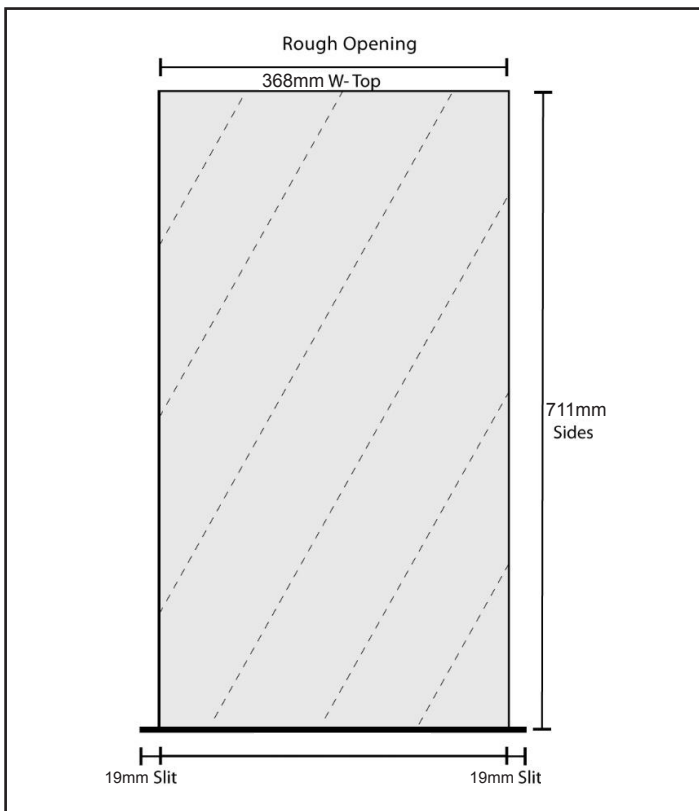

Figure 1
2. Once step 8 is complete, there will be a cut out opening to partially recess the IW25-5 into cavity wall. Fit the exterior sleeve against the cut-out opening. Make sure the pop-out for drain/power are at the bottom of sleeve.(Figure 1)